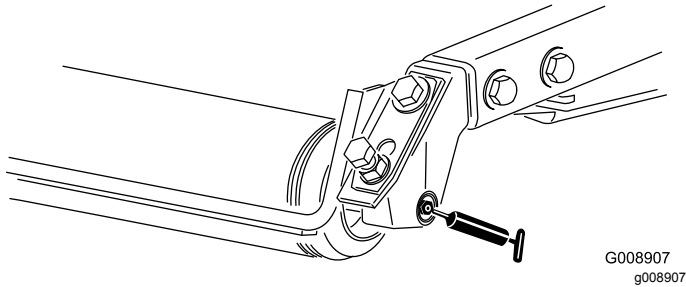

Figure 69
- Rear-roller bearings (2 per cutting unit)—Figure 69